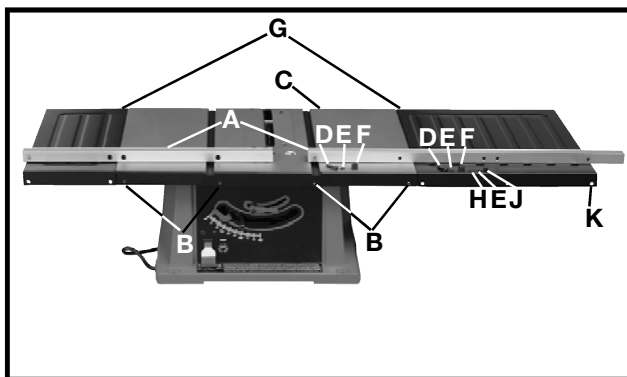

Fig. 19
1. Holding the guide rail with the larger holes facing you, loosely **fasten guide rails (A) Fig. 19, to the four threaded holes (B) in saw table (C)** using two 1/4-20 x 1-1/4" long screws (D), 1/4" lockwashers (E), and spacers (F).
IMPORTANT: Spacers (F) Fig. 19, are positioned between guide rails (A) and saw table (C).
2. **Fasten guide rails (A) Fig. 19, to extension wings (G)** through hole (K) using the 1/4-20 x 1-1/4" long screw (D), 1/4" lockwasher (E), spacer (F), 1/4" flat washer (H), 1/4" lockwasher (E), and 1/4-20 hex nut (J). Then tighten all guide rail mounting hardware.
IMPORTANT: Spacer (F) Fig. 19, is positioned between guide rails (A) and extension wings (G).